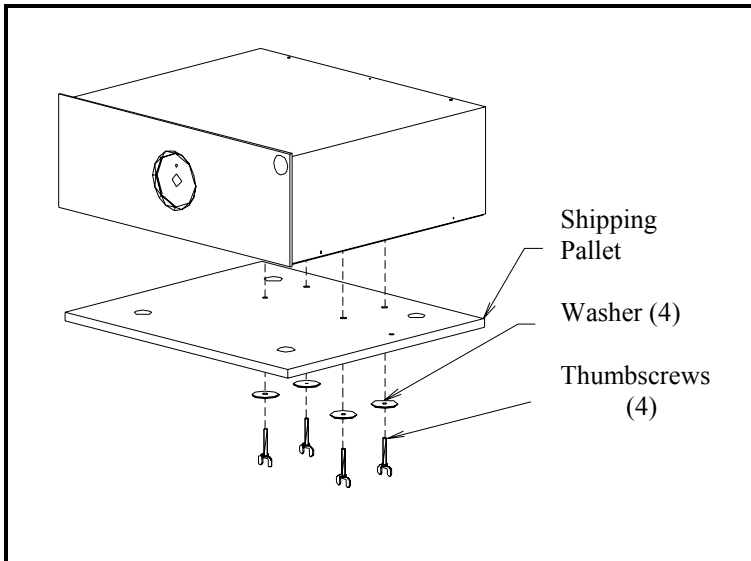

Figure 1
- 2) *Remove Shipping Pallet* - The amplifier is shipped attached to a shipping pallet. This pallet serves two purposes. First, and foremost it acts to tie down the mechanically isolated transformer platform. Secondly, it provides strength to the main chassis. Both of these items are critical to ensure that no damage occurs in transit. After removing the amplifier from the box and packing material, CAREFULLY turn the unit upon its side. Remove the 4 thumbscrews and washers. Retain these screws and pallet in the event that the unit ever needs servicing. See Figure 1.